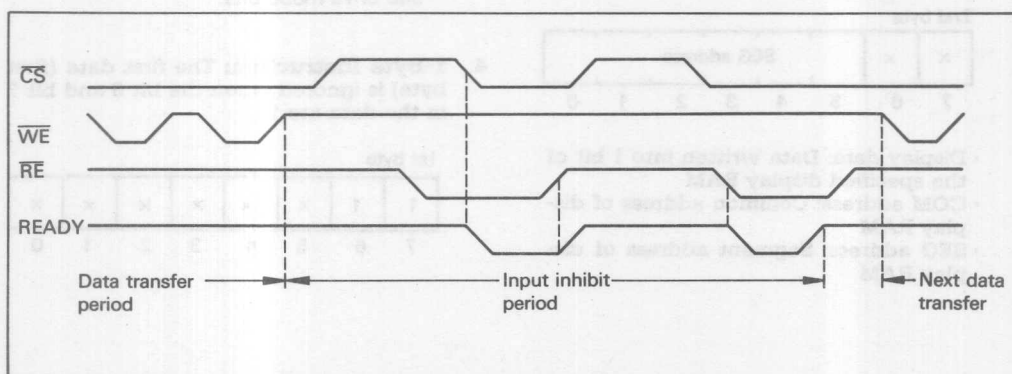

Figure 17 READY Output Timing (When It is Made Available by  $\overline{\text{CS}}$  and  $\overline{\text{RE}}$ .)
- READY is made available by  $\overline{\text{CS}}$  and  $\overline{\text{RE}}$  (figure 17).